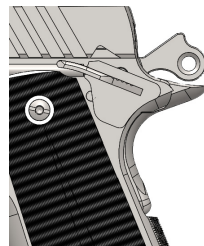

Figure 4
- At rest, the grip safety blocks the trigger – Figure 4.